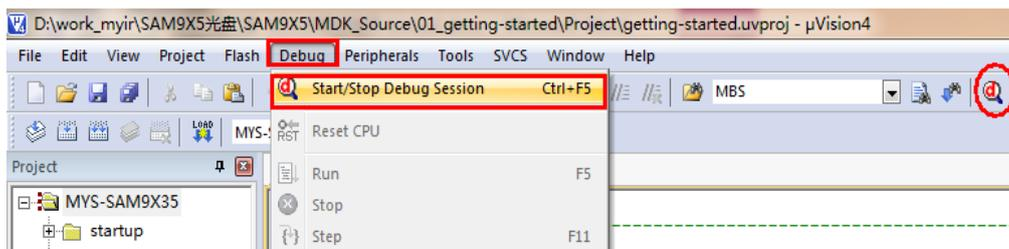

Figure 3-12
(4) Click Ctrl+F5 or shortcut icon, or select Debug->Start/Stop Debug Session to start debug. Refer to figure 3-12: